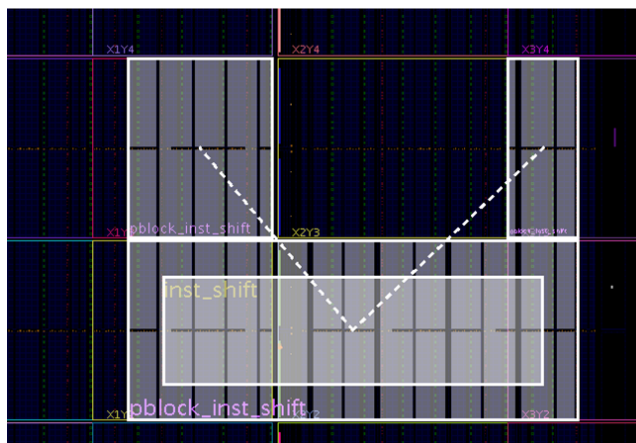

Figure 6-4: Unsupported Pblock with `clock_region` Gap
2. Do not create U or H shaped Pblocks with large gaps that span an entire `clock_region`, as shown in Figure 6-4 below.